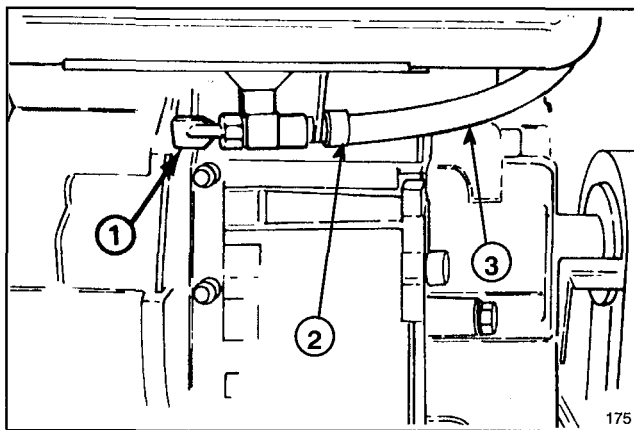

Figure 24
1. Close fuel shut-off valve located under engine (Fig. 24).
3. Loosen hose clamps securing fuel line to valve and slide line off valve (Fig. 24).